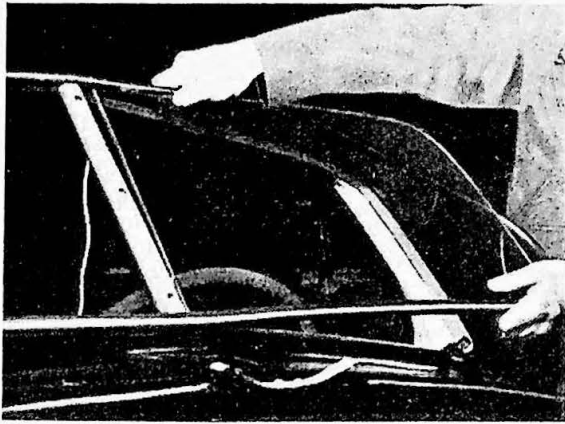

Fig. 29.
5. Fit the other pane in its weatherstrip and lay the cord in the groove. See Fig. 29. Press the pane against the opening and pull away the cord.